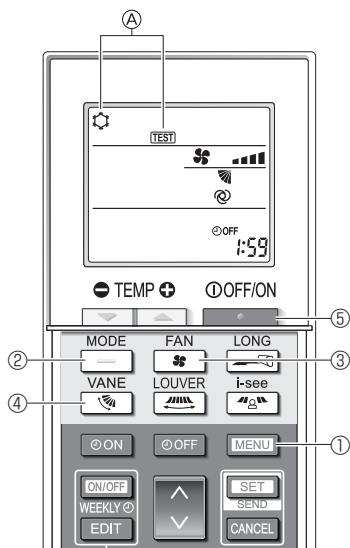

Fig. 8-5
2. Press the **MENU** button ① for 5 seconds. (Fig. 8-5)
Ⓐ **[TEST]** and the current operation mode are displayed. (Fig. 8-5)